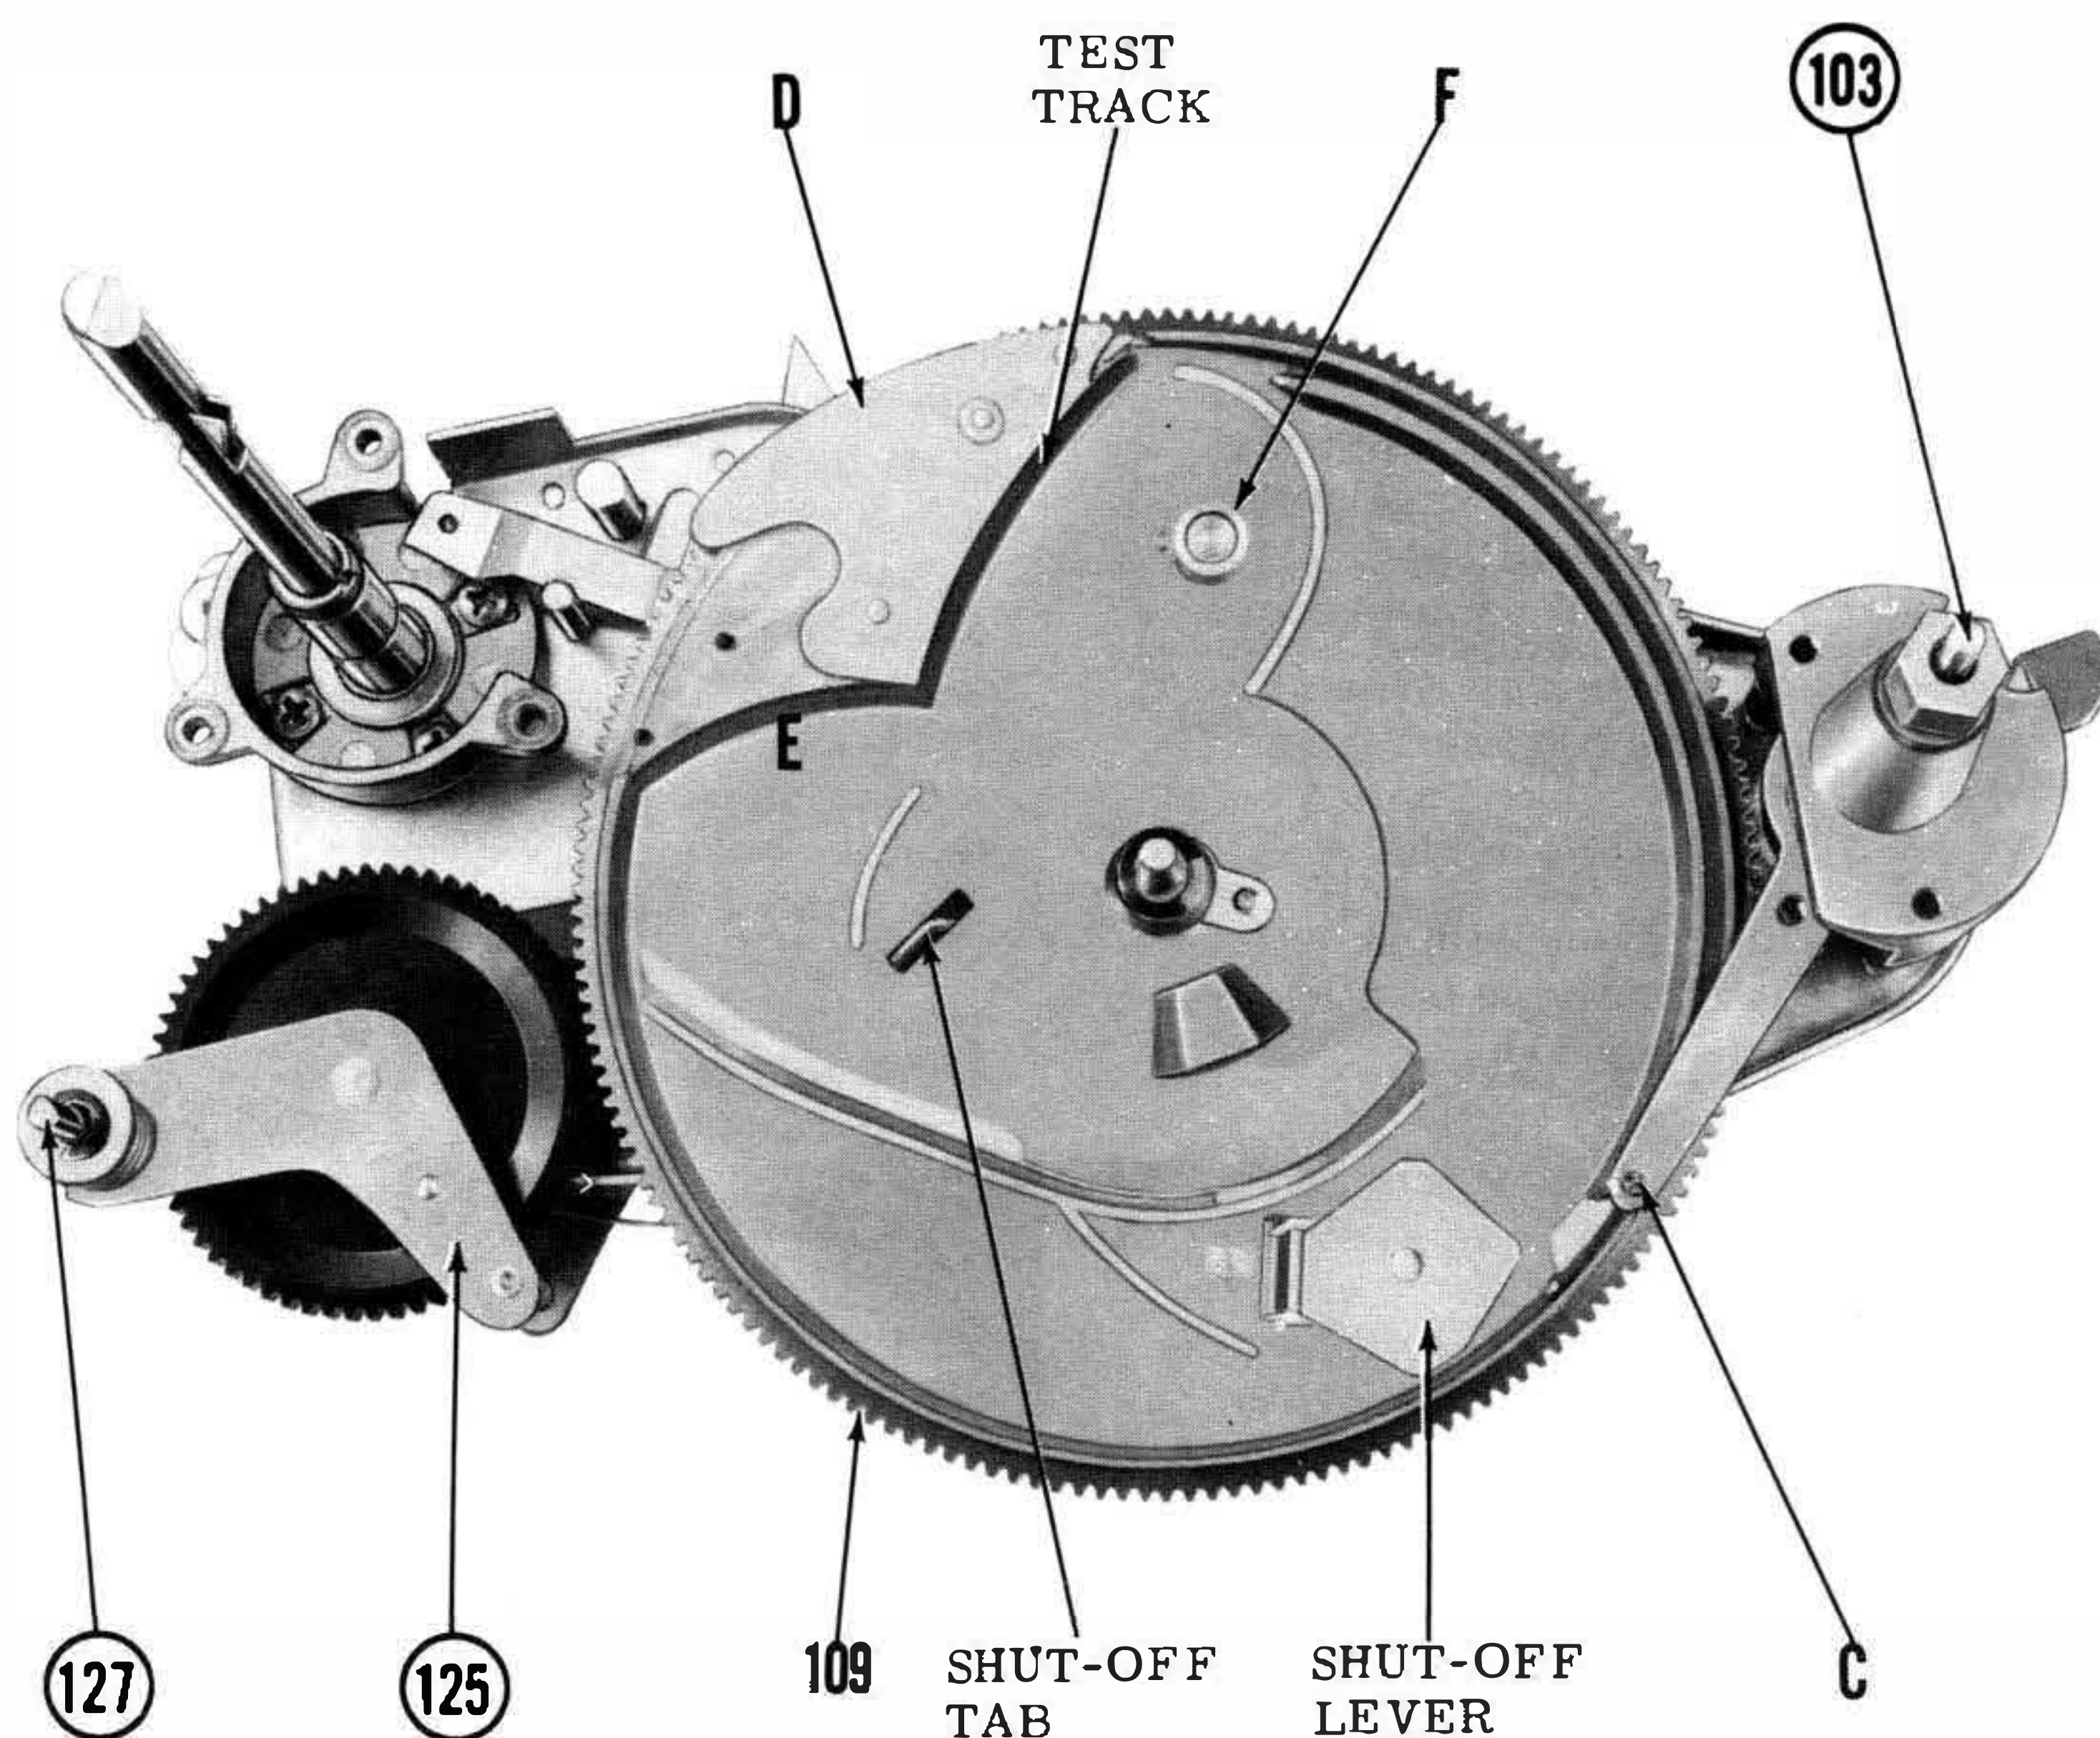
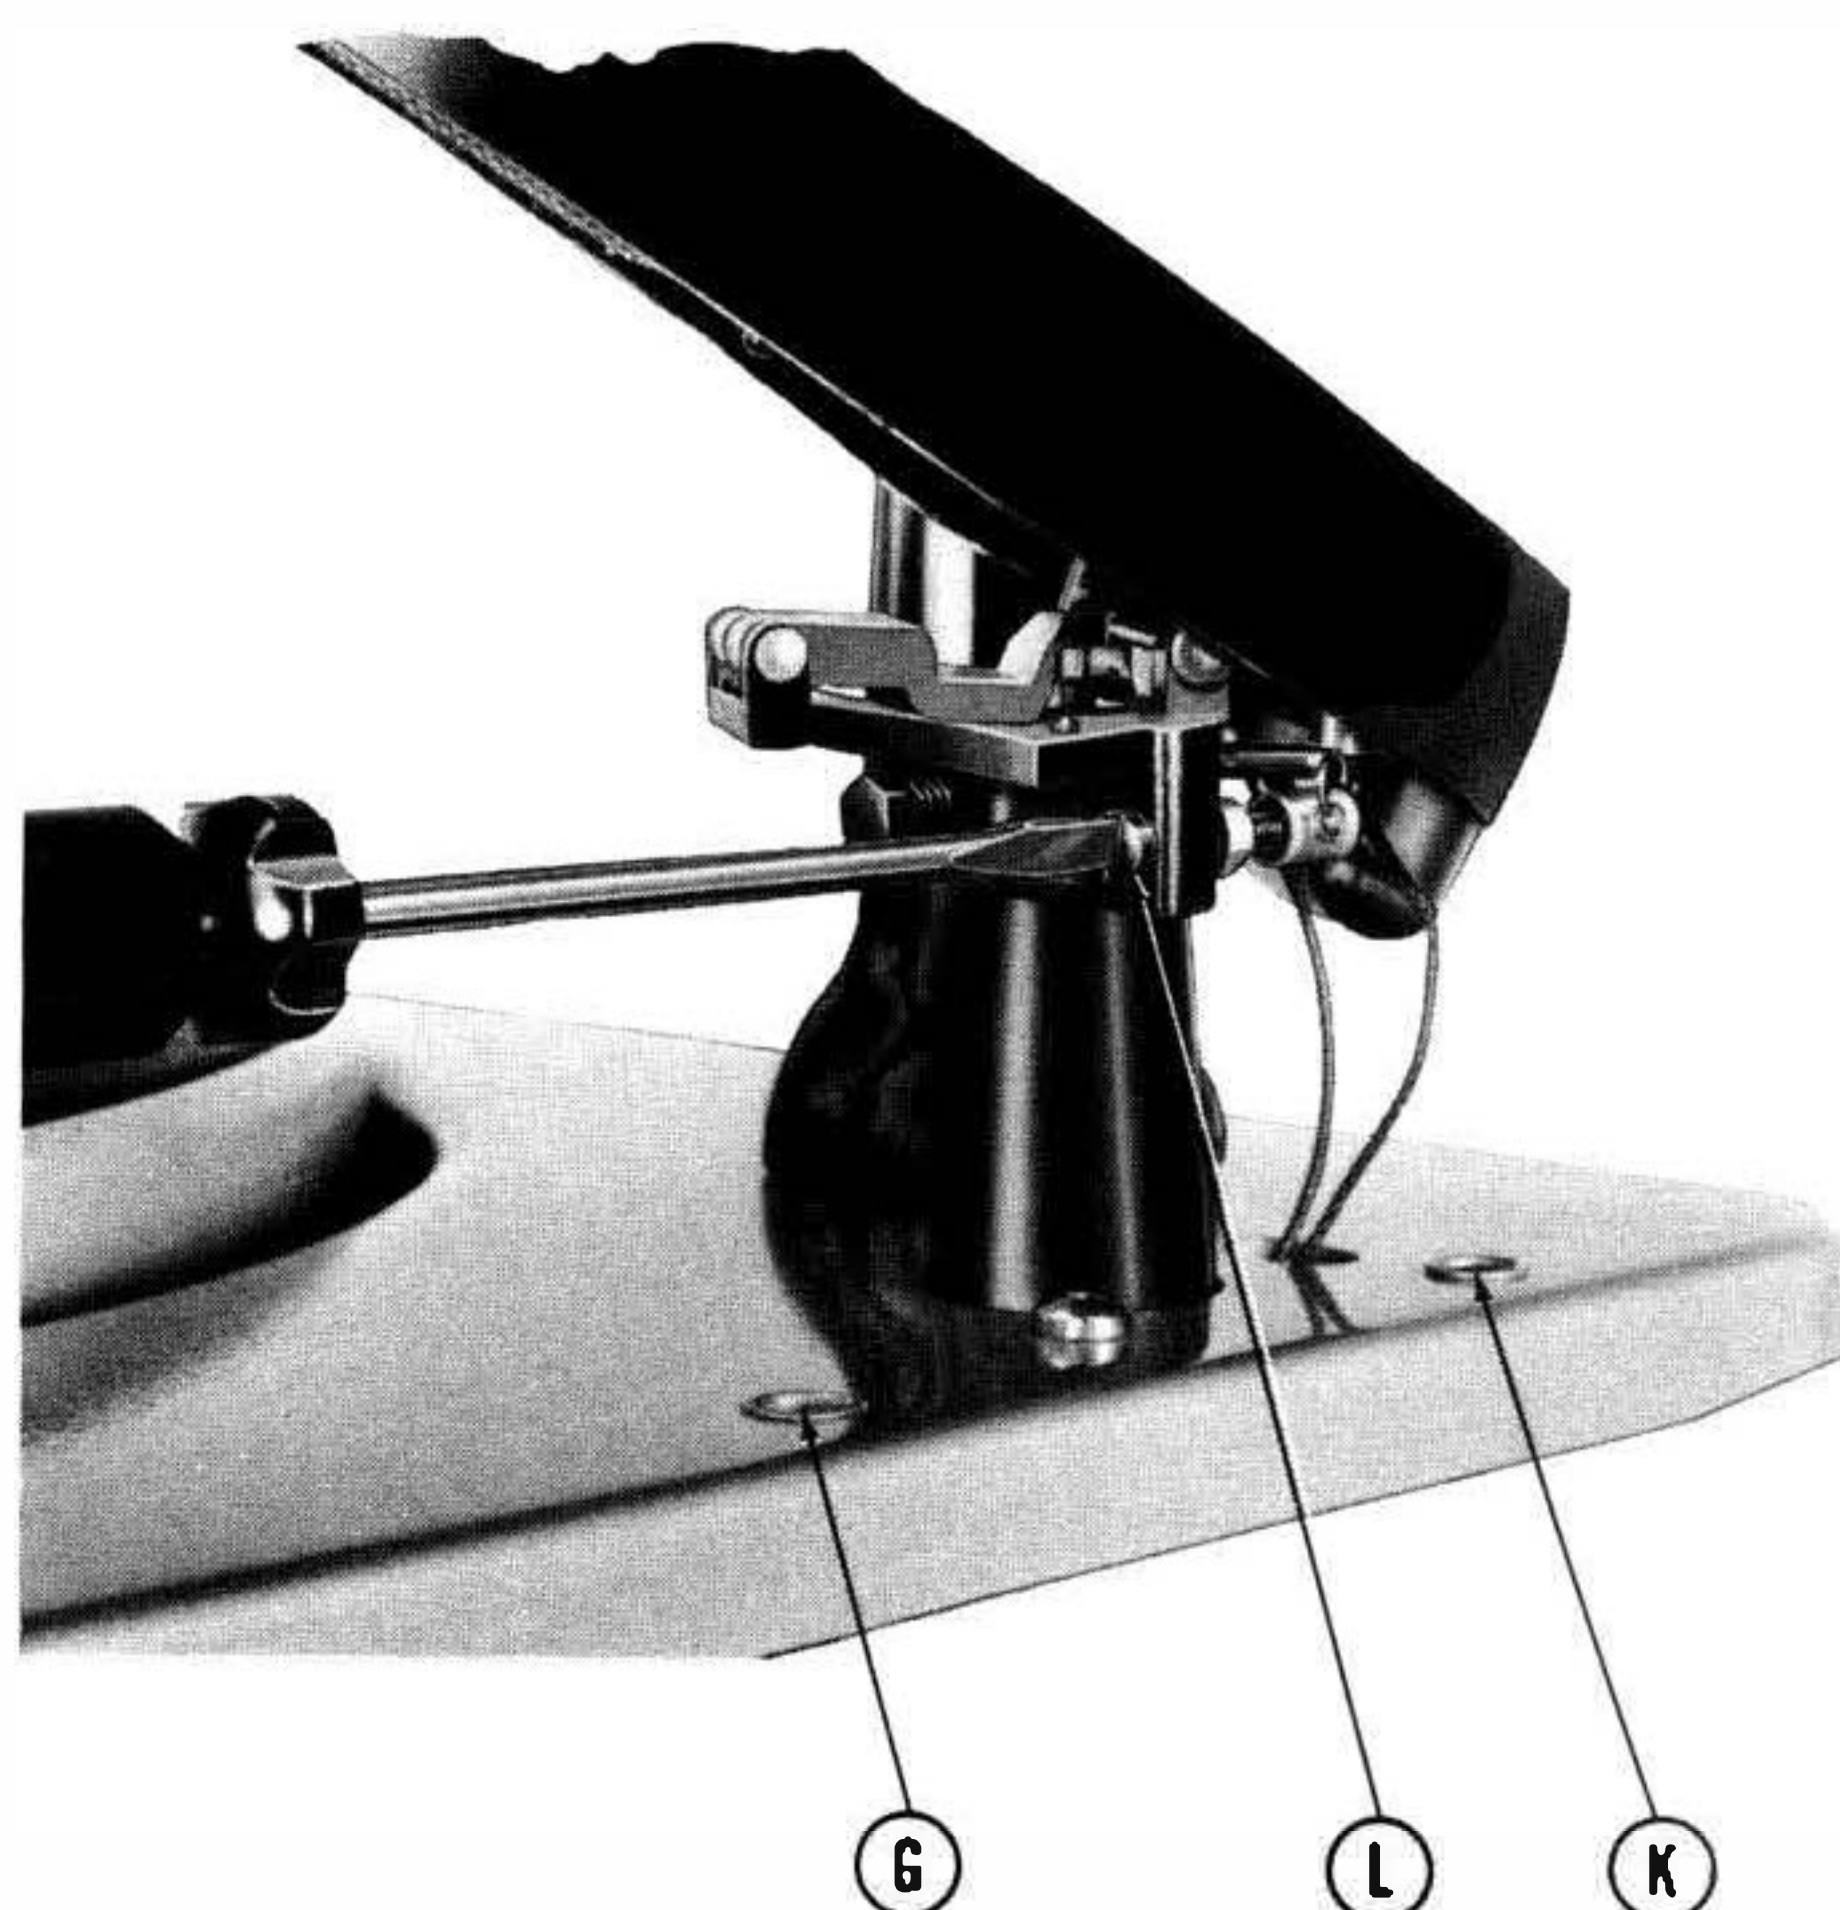

Figure 4--Top View of Sub-Plate Assembly
Figure 5
In addition, as the Main Cam Gear Assembly (109) starts to rotate, the Cam Following Pin "C" in Figure 4 is forced to the outside groove of the Cam. This action forces the Tone Arm out to the point of maximum lateral travel.
The Main Cam Gear (109) begins to rotate and the Following Pin "C" moves down the Test Track, carrying the tone arm in toward the center of the turntable. Since the arm does not contact a record, the Following Pin "C" will now leave the test track, move through the sloped groove to the outside groove in the Cam, thus swinging the tone arm out to its rest position. At a point during the rotation of the Main Cam Gear, the Following Pin will lock the Shut-Off Lever on the Cam so the Shut-Off Lever Tab will be in its outer position (see Figure 4).
This adjustment has been accurately set at the factory, however, should adjustment be required in the field, a screwdriver adjustment "G" (Figure 5) is provided in the base plate just forward of the tone arm pivot. This adjustment consists of an eccentric cam which contacts Lever "D" on the Main Cam Gear (See Figure 4).
Check to see if the Cam Following Pin "C" is rubbing bottom of cam groove when in the "playing recess". This pin is properly positioned when it touches halfway up ramp "E" (see Figure 4).
The Tone Arm Height Adjustment Screw "K" (Figure 5) is used to set the height to which the tone arm raises during the change cycle. During the change cycle the tone arm is lifted up and moved out over the rest post. During this time the clearance between the top of the tone arm and the underside of the next record on the shelf should be approximately 1/4". To obtain this setting, rotate screw "K" clockwise to lower the tone arm or counter-clockwise to raise it.
Use a suitable gram scale and following the manufacturers instructions check the stylus pressure. Stylus pressure is set by rotating screw "L" in Figure 5. Stylus pressure is to be set for 3 grams plus or minus 1/2 gram.